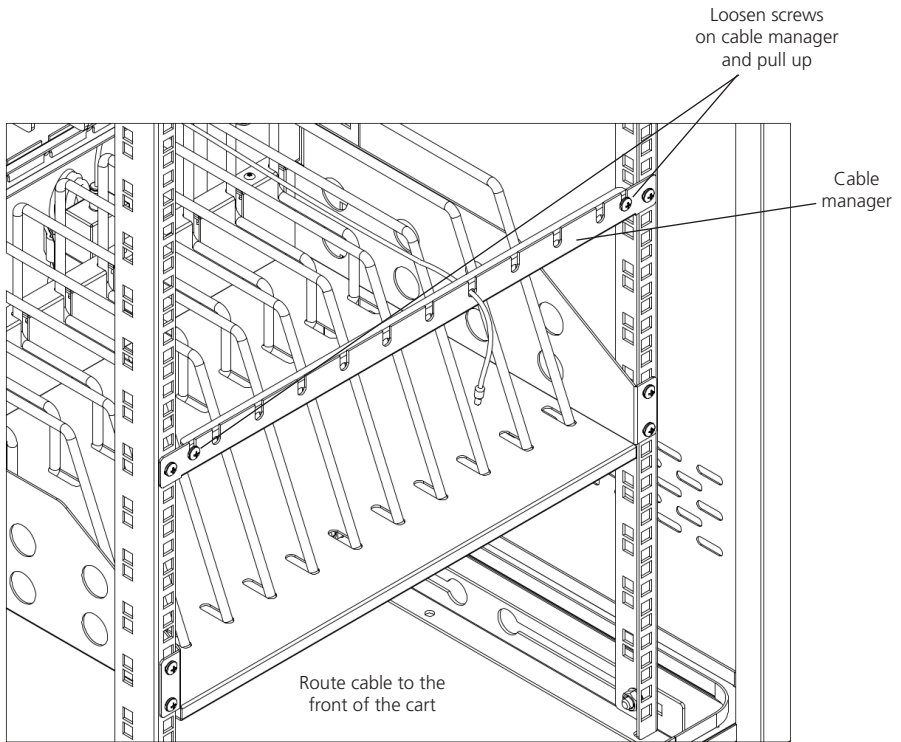

Figure 4-3. Routing the cable.
4. Route the device side of the charging cable to the front of the cart and repeat step 2 for the front cable manager (see Figure 4-3).